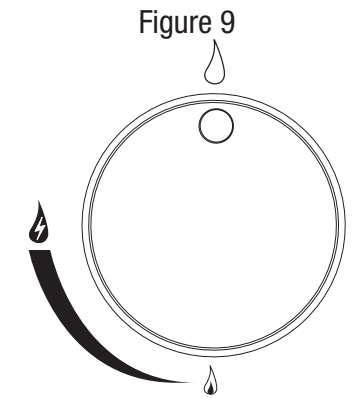

Figure 9
3. Control knob must be in the 🔻 (OFF) position. (Figure 9)